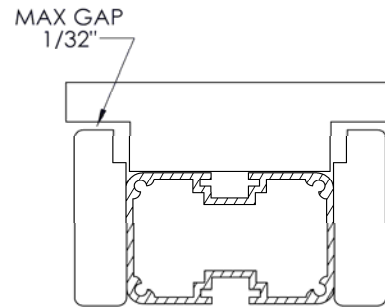

Figure 3
1) Use stabilizer gauge as shown to verify height of stabilizers. Ensure the gap shown in Figure 2 and Figure 3 Does Not Exceed 1/32". Check the stabilizers in two locations as shown in Figure 1.